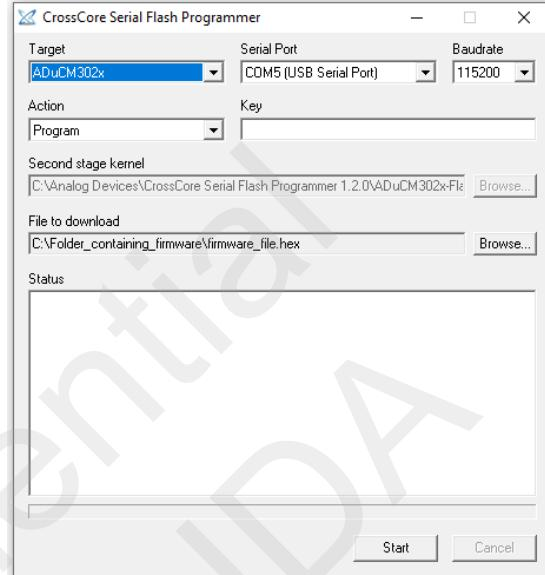

Figure 13. CrossCore Serial Flash Programmer.
2. Set the CrossCore Serial Flash programmer according to Figure 13 (COM port may vary depending on the PC).